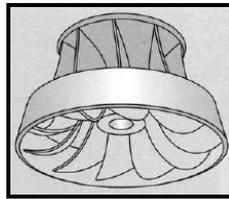

FIGURE 10.1
10.6 State the operational principles of EACH of the three water turbines shown in FIGURES 10.1, 10.2 and 10.3.